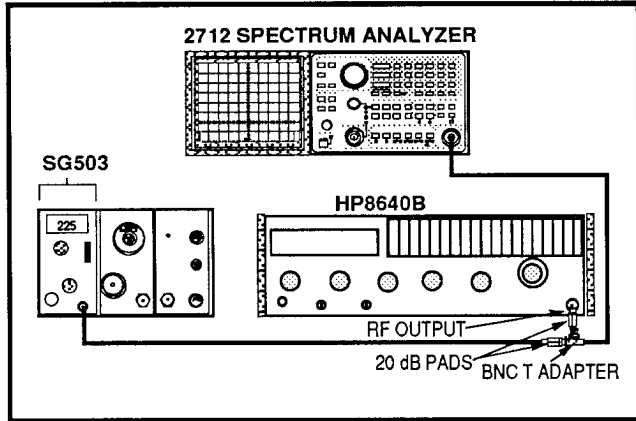

Figure 3-1. 3rd Order IM (25 MHz separation)
- b. Connect the test equipment as shown in Figure 3-1.